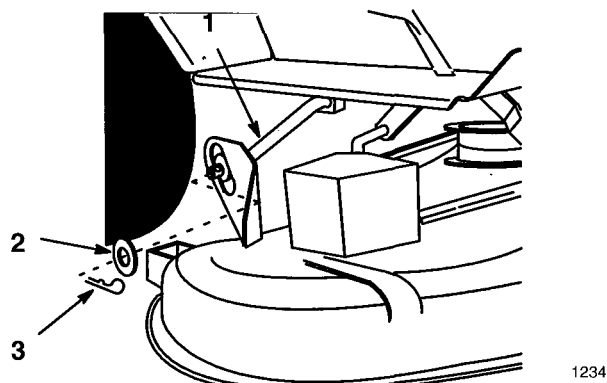

Figure 5
5. Place rear guide bushings, first left side then right, onto lift arms then slide deck left into position (Fig. 5).
6. Secure deck to rear lift arms with washers and hairpin cotters (Fig. 5).